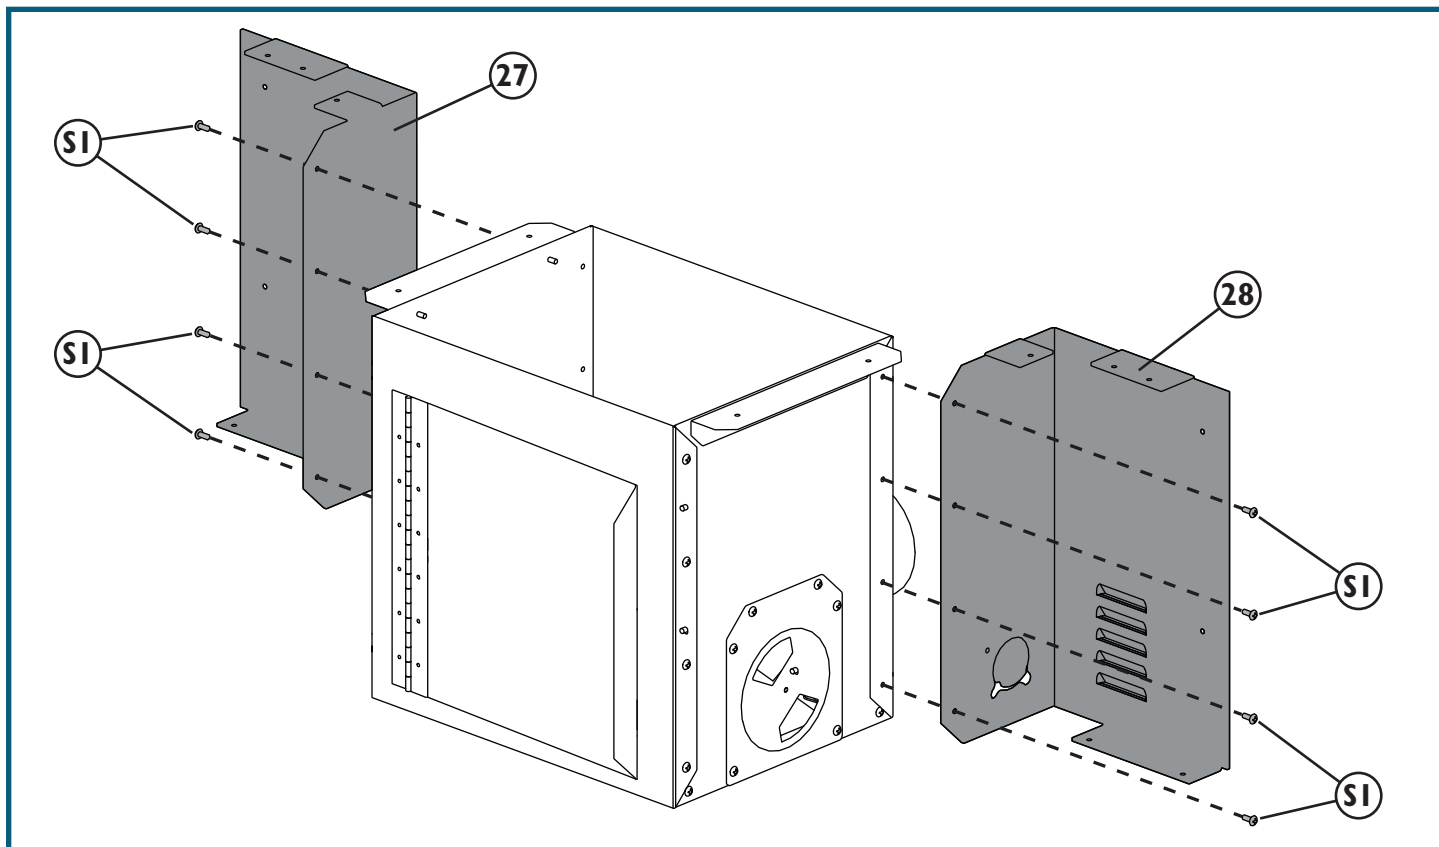

Fig. 15
- Position the Left and Right Rear Louver Panels (27 and 28) so that their mounting holes are aligned with the mounting holes in the Dust Bucket Left and Right Side Panels (16 and 17) and Dust Bucket Rear Panel (26). Secure the parts together with four M4 x 3/8" Pan-Head Self-Tapping Screws (S1) on each side. **Fig. 15.**